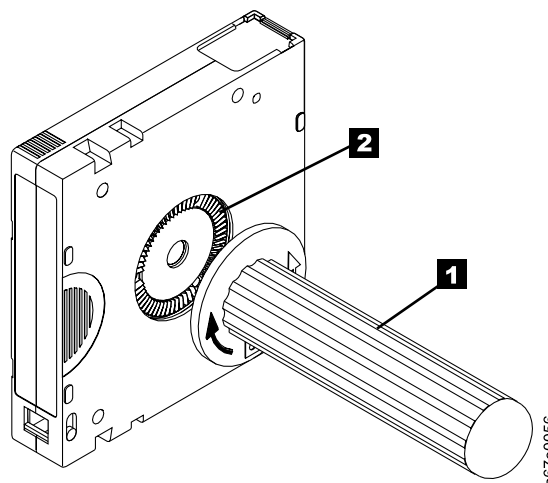

Figure 17. Rewinding the tape into the cartridge
5. To rewind the tape, insert the cartridge manual rewind tool ( **1** in Figure 17) into the cartridge's hub **2** and turn it clockwise until the tape becomes taut.